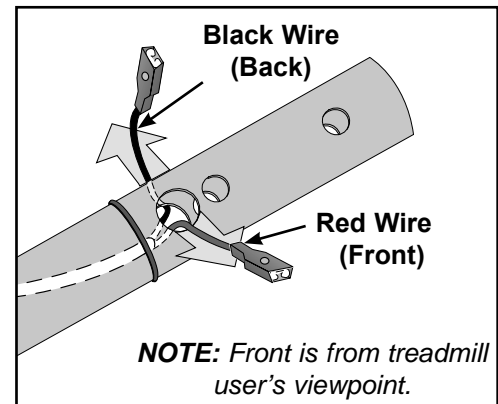

Figure 34
- D. Fold each cable and place it into the hole that leadsto the grip. See Figure 34.
- E. Push each wire out a hole (red out the front hole and black out the back hole). See Figure 34.